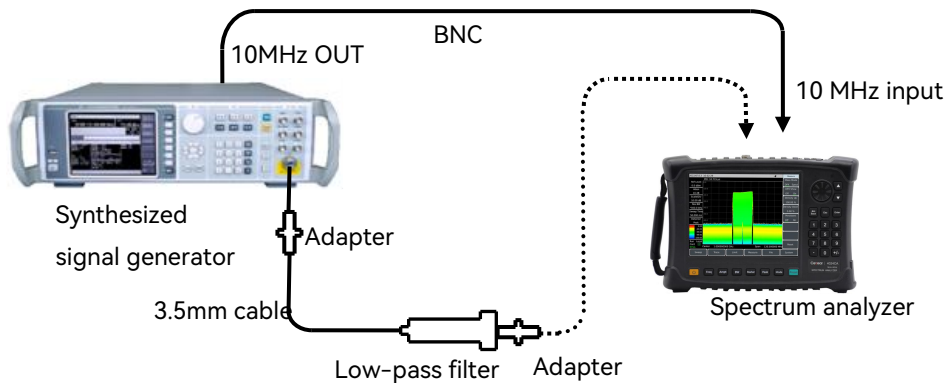

Figure 12-11 Second harmonic distortion test settings
1) Connect the test instrument as shown in Figure 12-11. The synthesized signal generator provides 10MHz frequency reference for the spectrum analyzer and selects a 1GHz low-pass filter;